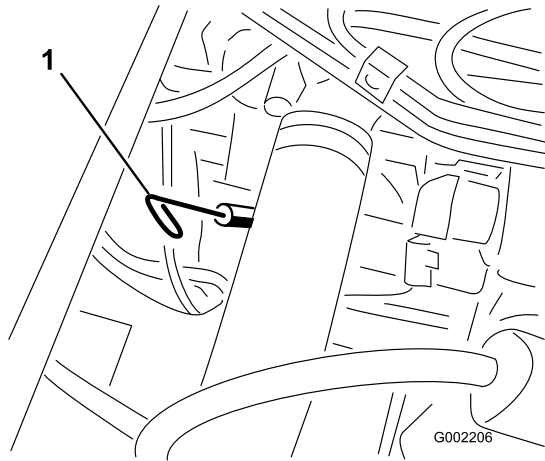

Figure 40
2. Remove the dipstick, located under the passenger seat, and wipe it with a clean rag (Figure 40). Insert the dipstick into the tube and make sure it is seated fully. Remove the dipstick and check the oil level.
13. Remove the oil filler cap and slowly pour approximately 80% of the specified amount of oil into the engine at the oil filler (Figure 40).